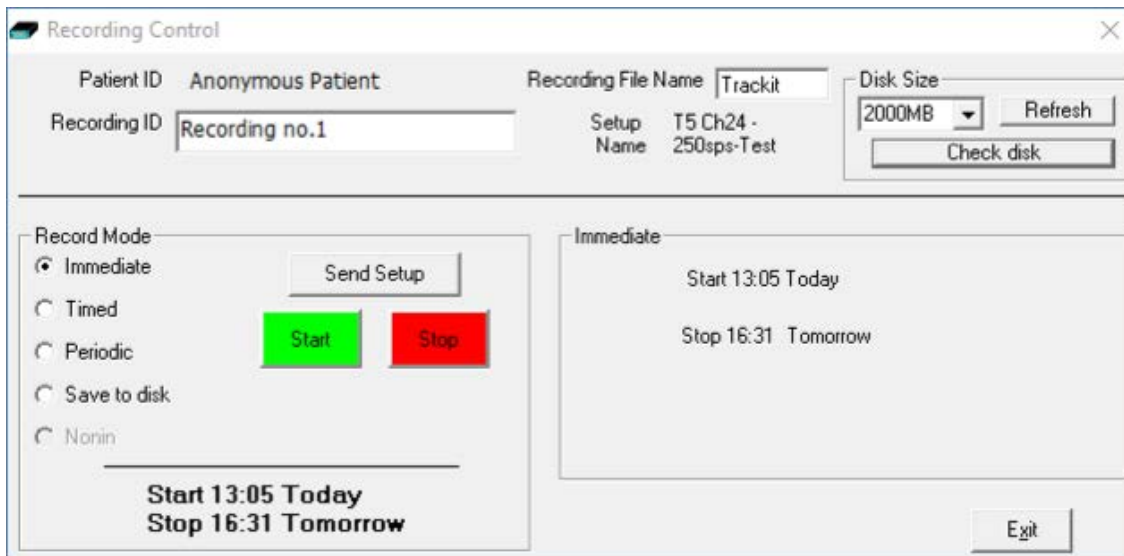

Figure 34: Recording Control panel (non videometry recording)
**NOTE:** When starting a recording with video, the only option is "Immediate". All other options are greyed out as shown in Figure 34.